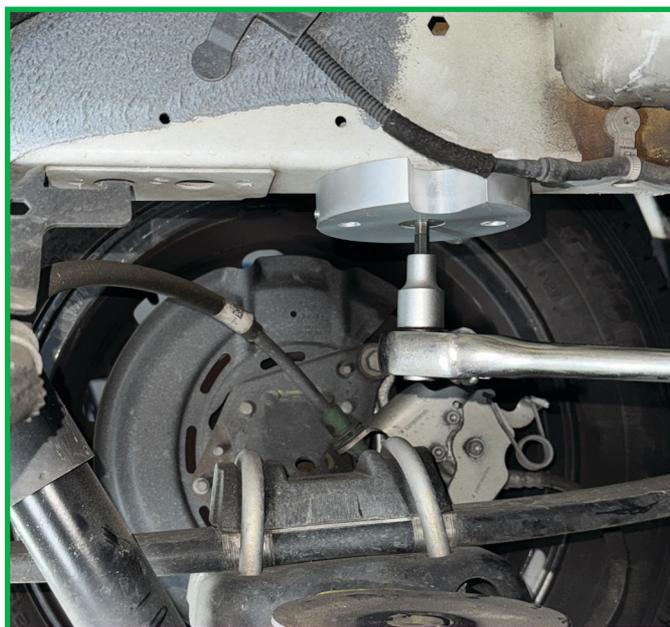

FIGURE 4
1. Mount the upper bracket with the M10 x 45 countersunk screw. Make sure that the cut-out points are to the middle of the axle, 90 degrees towards the driving direction. (Figure 4)